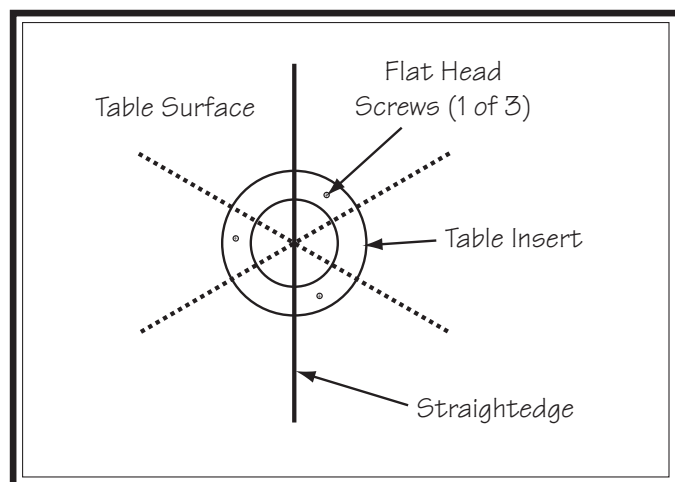

Figure 84. Straightedge and surface pattern.
3. Lay straightedge across outer insert and table surface in pattern shown in **Figure 84**.